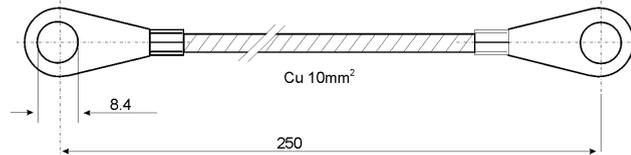

Fig. 8 Flexible copper strap (supplied with every load cell)
- Directly when installing the load cell, by-pass the load cell with the flexible copper strap of at least 10mm² provided for this purpose (fig. 8), to prevent welding or lightning stroke current from passing through the load cell and damaging it.